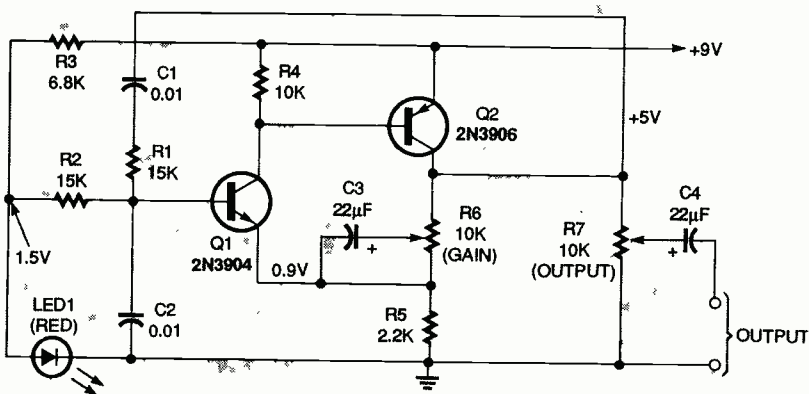

FIG. 4—THIS WIEN-BRIDGE OSCILLATOR generates variable-amplitude, 1-kHz sinewaves.
**FIG. 4—THE INPUT CAN BE PROTECTED** from reverse polarity by a series diode. The diode should be rated for twice the maximum expected input voltage and current for the best reliability.
Connect a surge arrester across the converter inputs, as shown in Fig. 3, if the input power stability is questionable. The input polarity is critical, and should be connected cautiously. The input can be protected from reverse polarity by a series diode, as shown in Fig. 4. The diode should be rated for twice the maximum expected input voltage and current for the highest reliability.